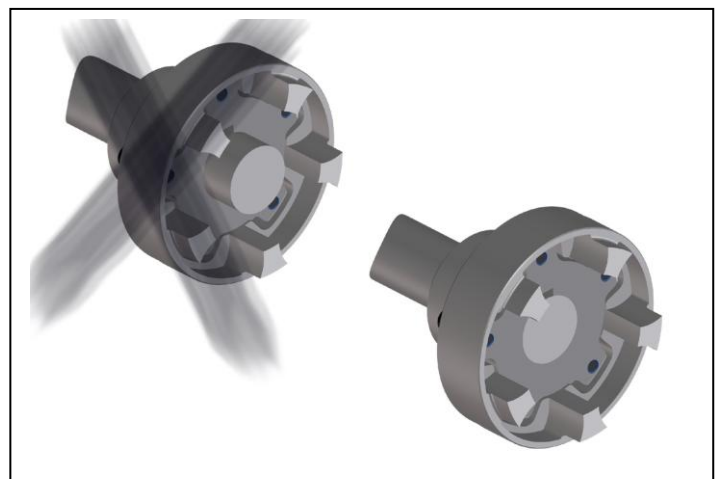

Fig. 4
- Mount the hub so that the shaft ends are flush with the interior borehole opening (Fig 4). Protruding shaft ends prevent radial mounting and dismounting of the brake disk. Pay attention to possible differing agreements!